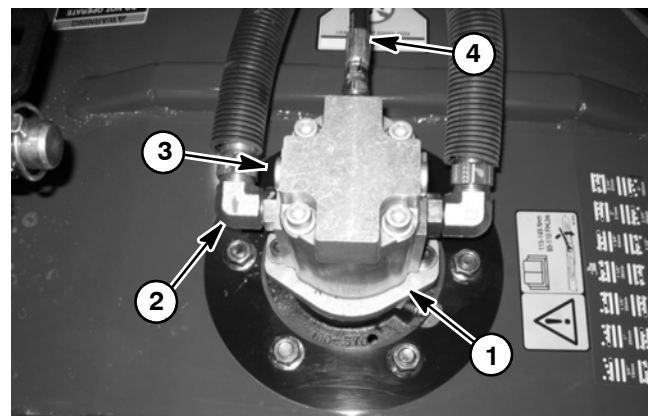

Figure 68
5. For the suspected bad deck motor, disconnect return hose from the motor. **Note:** the return hose is on the motor side that includes the relief valve (Fig. 68).